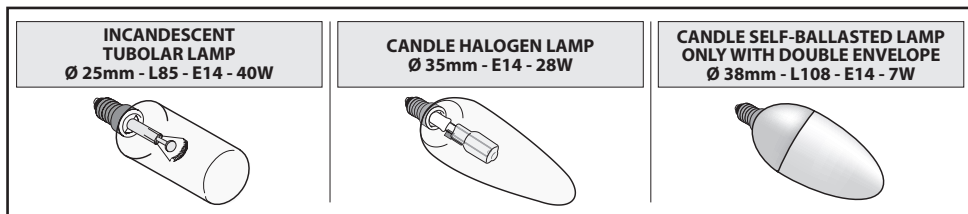

Fig.15
• Replace incandescent/halogen/fluorescent lamps (Fig.15):